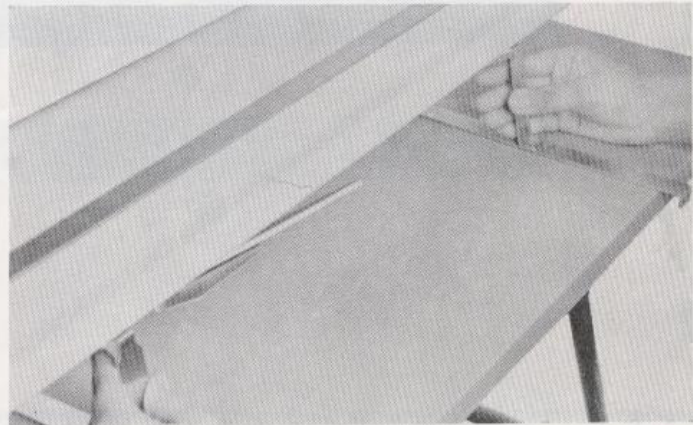

Fig. 3
(2) Put the Knit-Leader upright on the table with the front ends of the Stand hooked to the edge of the table as shown in the Fig. 3, 4.